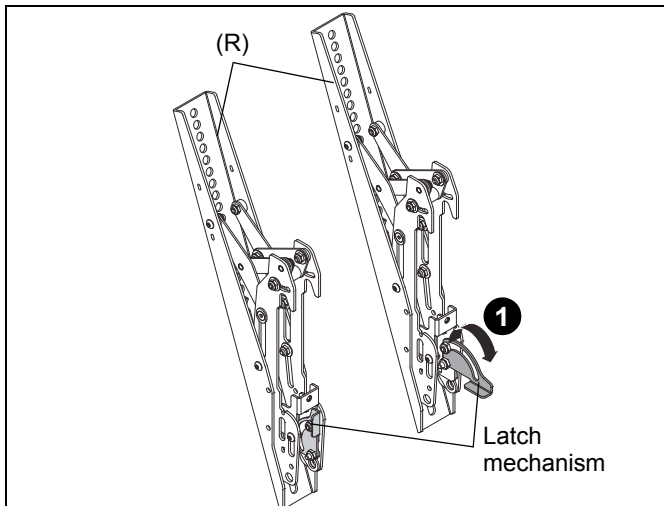

Figure 19
1. Lower the latch mechanism on each interface bracket (R). (See Figure 19)
1. Ensure that the latch mechanisms on interface brackets (R) are already lowered. (See Figure 19)